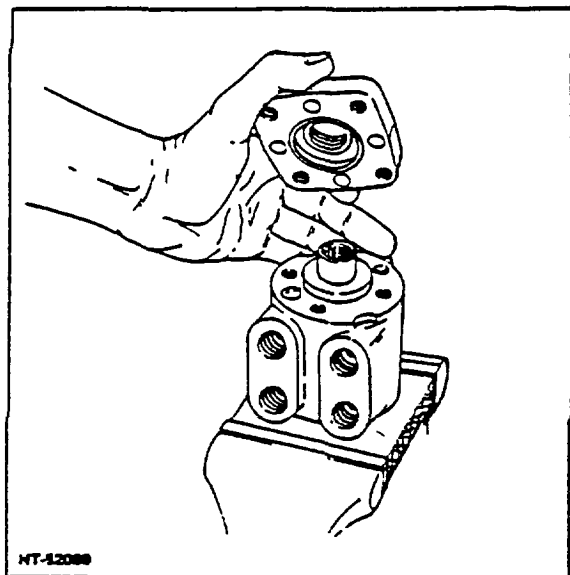

Figure 25. Installing Mounting Plate
14. Place the mounting plate subassembly over the spool shaft and slice it down smoothly in place over the cap locator bushing so that seals will not be disrupted in assembly (Fig. 25).